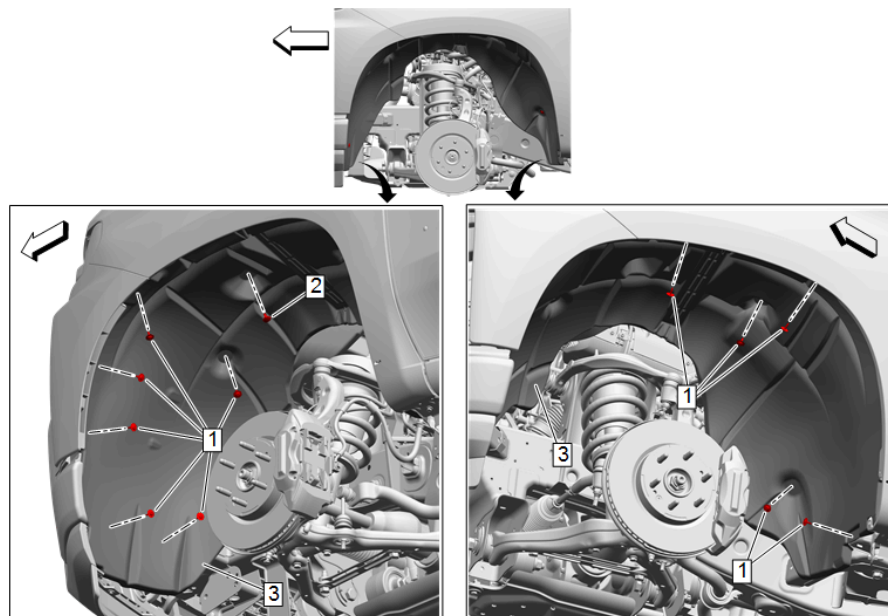

Figure 5
11. Remove the eleven (11) wheel well liner bolts. **(Figure 5, #1)**
12. Remove retainer from the wheel well liner. **(Figure 5, #2)**
13. Remove the wheel well liner on both sides of the vehicle and set aside for future reinstallation. **(Figure 5, #3)**